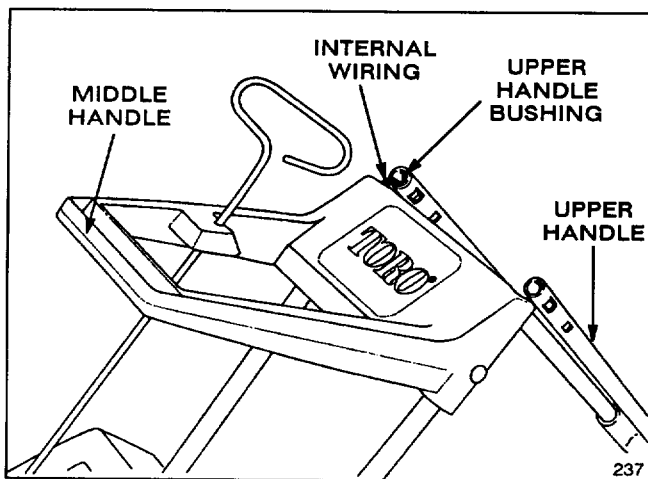

Figure 1
1. Stand snowthrower upright and position upper handle in inverted position to prepare for handle assembly (Fig. 1). Inspect the open internal wiring for damage.
Note: Do not remove bushing from upper handle tube (Fig. 1).